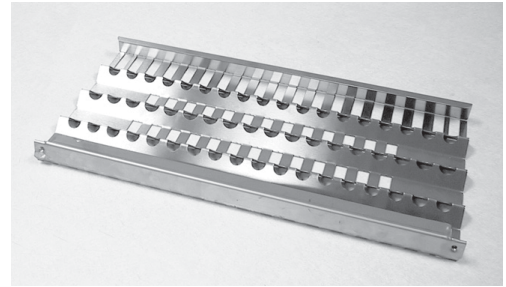

FIG. 19
1. Unpack ceramic rods and remove radiant (Fig. 19) from the unit.